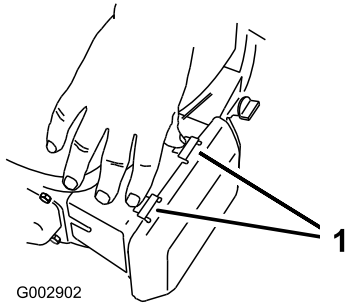

Figure 17
1. Press down on the latch tabs on top of the air-filter cover (Figure 17).